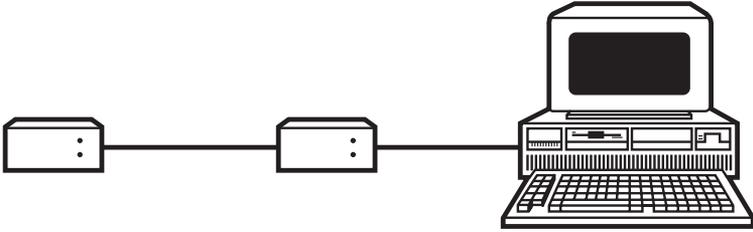

Figure 4-1. Hardware links.
3. Disconnect the NDS and the cable that came with it from their existing attachments. Temporarily run the NDS's cable from the NDS's **Computer** connector to the system module's **Network Data Security** connector. Your hardware setup should look like the one shown in Figure 4-1 on the next page.